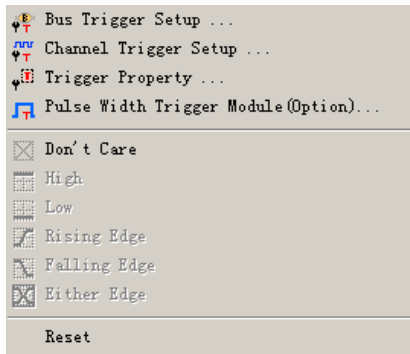

Fig 4-17 -Trigger Menu
Step1. Click  icon or click Bus Trigger Setup from the Trigger on the Menu Bar. The menu is shown as Fig 4-17.